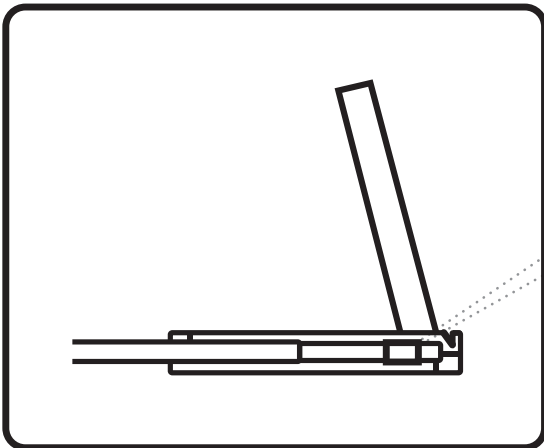

Figure 7.
- A black arrow release button is located on the outside of each slide. (shown in **Figure 7**).